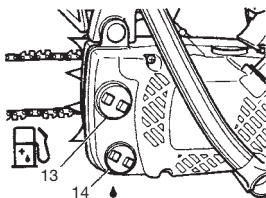

Fig. 8
### ⚠ WARNING! (Fig. 8)
## Chain oil (Fig. 8)
When pouring fuel (13) or chain oil (14) into the tank, place the unit with cap side up. (Fig. 8)